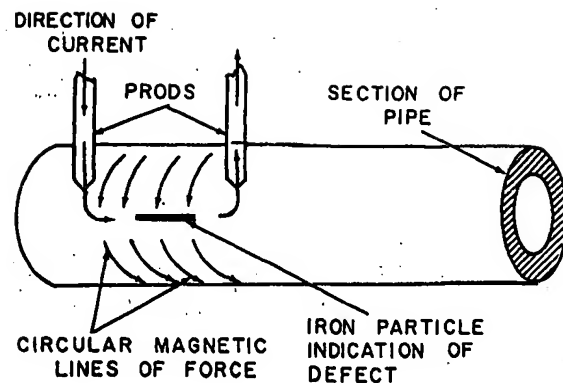
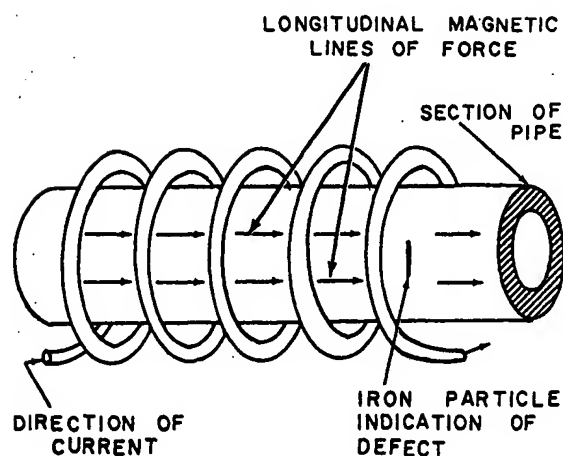

Figure 7-58.—Circular magnetization (prod method).
Figure 7-59.—Longitudinal magnetization (coil method).
You can magnetize the test piece by either having an electric current pass through it, as shown in figure 7-58, or by having an electric current pass through a coil of wire that surrounds the test piece, as shown in figure 7-59. When an electric current flows in a straight line from one contact point to the other, magnetic lines of
force are in a circular direction, as shown in figure 7-58. When the current flow is through a coil around the test piece, as shown in figure 7-59, the magnetic lines of force are longitudinal through the test piece.
When a defect is to show up as a disturbance in the pattern of the iron particles, the direction of the magnetic field must be at right angles to the major axis of the defect. A magnetic field having the necessary direction is established when the current flow is parallel to the major axis of the defect. Since the orientation of the defect is unknown, different current directions must be used during the test. As shown in figure 7-58, circular magnetism is induced in the test piece so you can inspect the piece for lengthwise cracks, while longitudinal magnetism, as shown in figure 7-59, is induced so you can inspect the piece for transverse cracks. In general, magnetic particle inspection is satisfactory for detecting surface cracks and subsurface cracks that are not more than 1/4 inch below the surface.
You can use the unit with alternating or direct current in either of two ways: (1) with prods attached to the flexible cable and used as contacts for the current to pass into and out of a portion of the test piece, setting up circular magnetization in the area between the prods contact points, as shown in figure 7-58; or (2) with the flexible cable wrapped around the work to form a coil
that induces longitudinal magnetism in the part of the workpiece that is surrounded by the coiled cable (fig. 7-59).